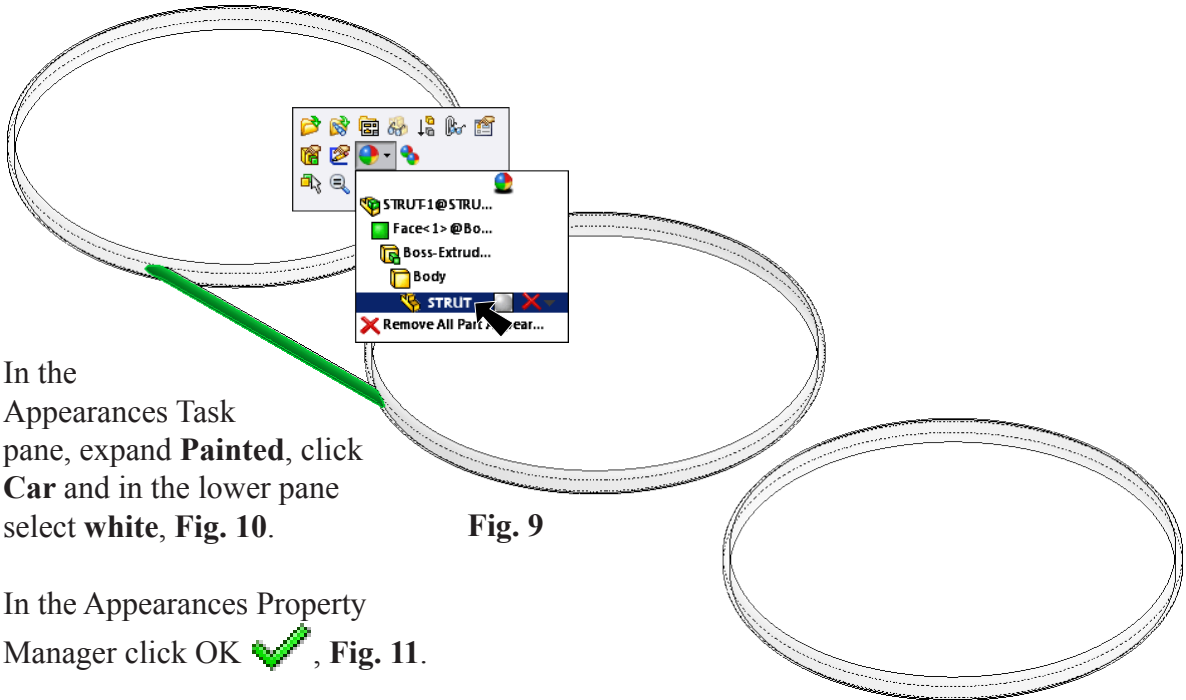

Fig. 9
Step 1. Click the Strut part, expand **Appearance Callout**  on the Context toolbar and click **STRUT** , Fig. 9.